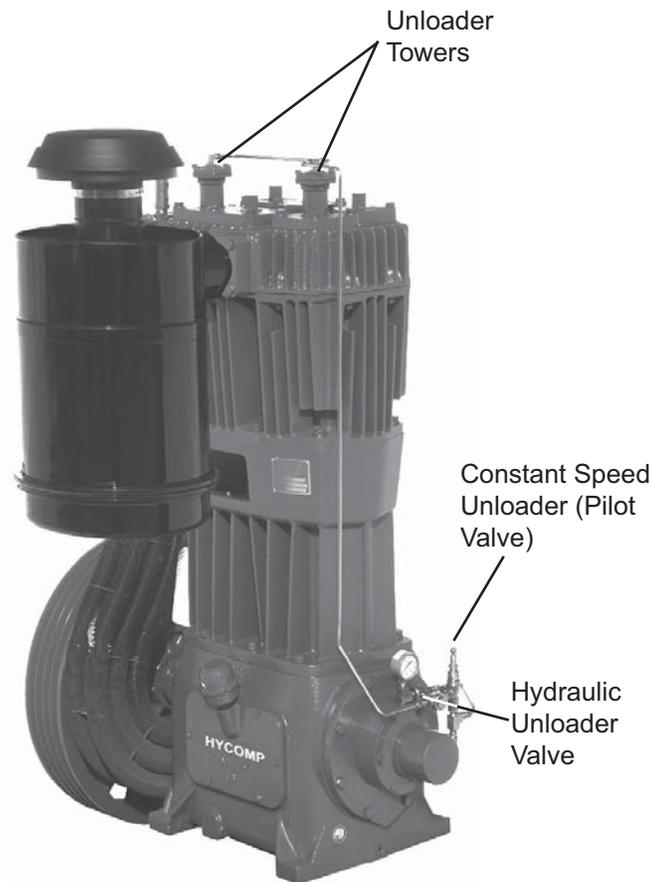

Figure 7: Unloader Device Locations
Suction valve unloaders utilize unloading towers attached to the compressor cylinder head, and a three way valve to supply air pressure to the unloader towers to actuate them. The tower forces the suction valve open, allowing the compressor to unload. The three-way valve supplies gas pressure to the unloader towers, or dumps that pressure out of the unloader towers (See Figure 7).
**Hydraulic Unloader Valve** – Provided on all pressure lubricated Hycomp model ambient air compressors and some air boosters and gas compressors. Located at the top of the oil pump housing, this unloader valve senses oil pressure and supplies unloading pressure to the unloading towers, when there is not sufficient oil pressure (see Figures 7 and 8). When the oil pressure rises, the hydraulic unloader valve vents the unloader pressure to atmosphere. This provides protection to the compressor in the event of a potentially damaging oil pressure drop. It also insures the compressor will not begin compression until oil pressure has risen to an acceptable level. THIS VALVE IS ONLY TO BE